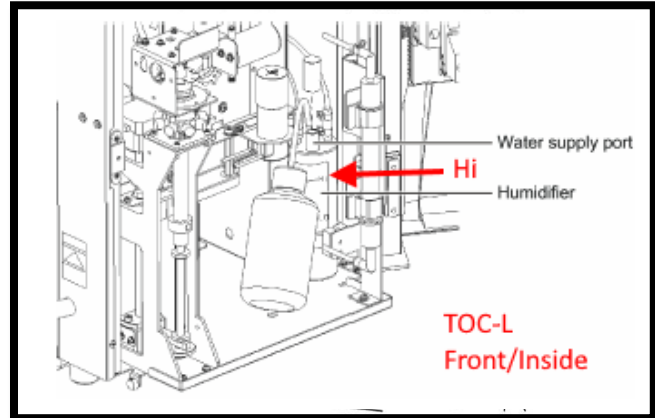

Figure 2
3. Fill the Humidifier Container (Fig.2) with deionized water by removing the rubber stopper